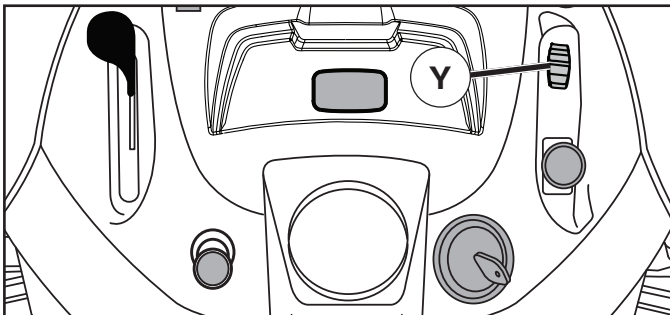

Fig. 8
## TO USE DIFFERENTIAL LOCK CONTROL (Y) (See Fig. 8)